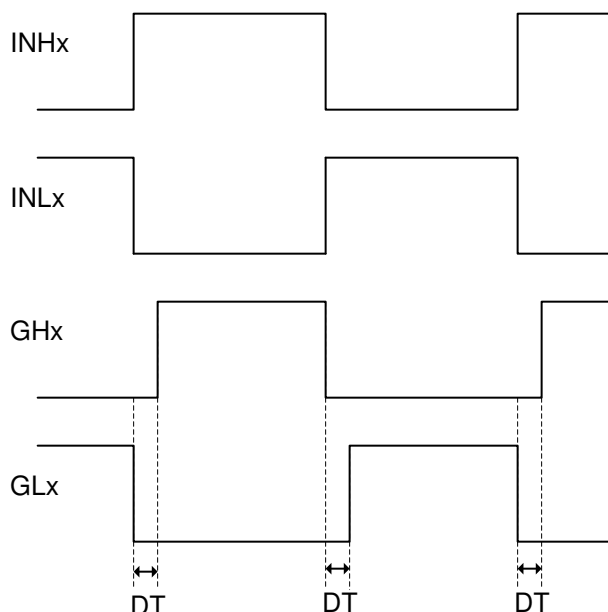
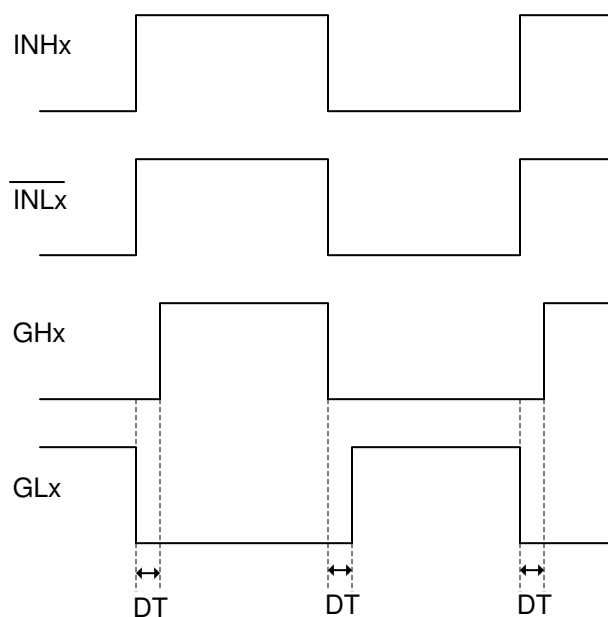

Figure 7-3. Non-Inverted INLx inputs (MODE = floating)
Figure 7-4. Inverted INLx inputs (MODE = GVDD or TSSOP package variant)
When the MODE pin is left floating, INLx is configured to be in non-inverting mode and GLx output is in phase with INLx (see Figure 7-3). When MODE pin is connected to GVDD, GLx output is out of phase with inputs (see Figure 7-4). The TSSOP (PW) package variant does not have a MODE pin, so the INLx pins are inverted by default.